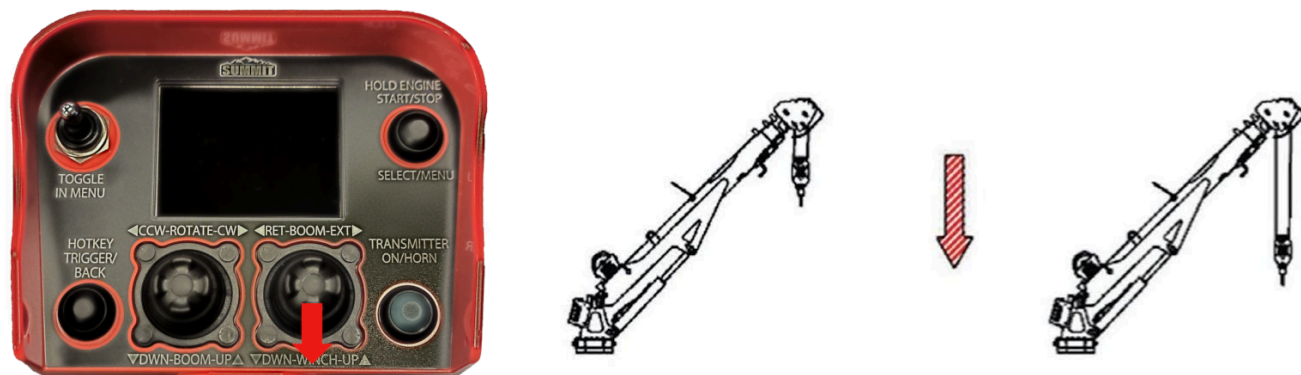

Figure 2-55.
8. Press the right joystick downward to lower the winch (see Figure 2-55).